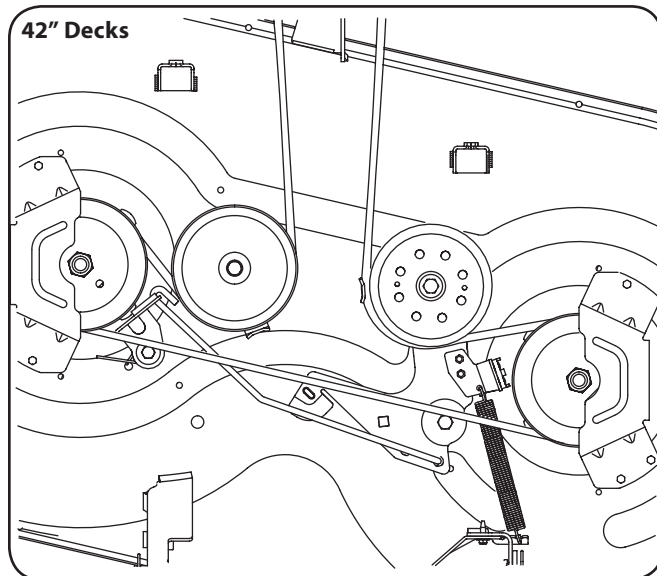
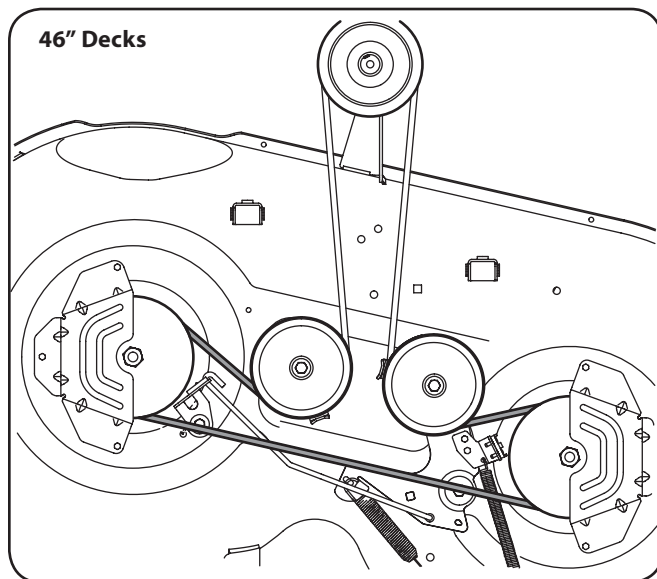
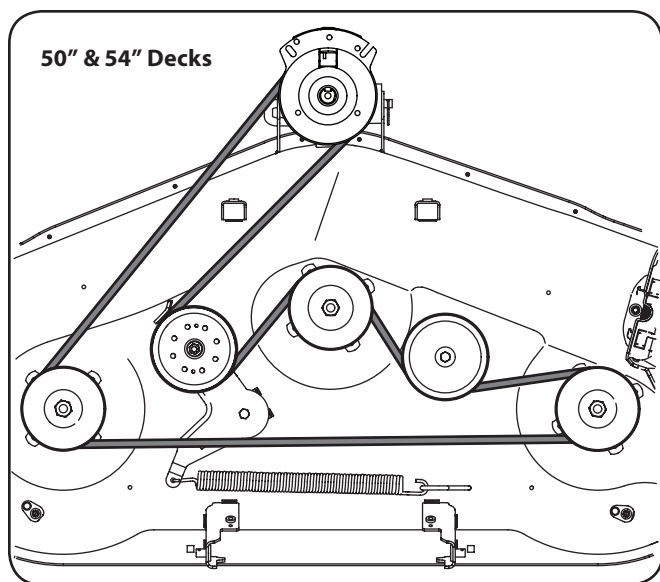

Figure 7-8
Figure 7-9
Figure 7-10
4. Route the new belt as shown in the applicable figure on the following pages. See Figure 7-8 for 42" decks, Figure 7-9 for 46" decks and Figure 7-10 for 50" & 54" decks.